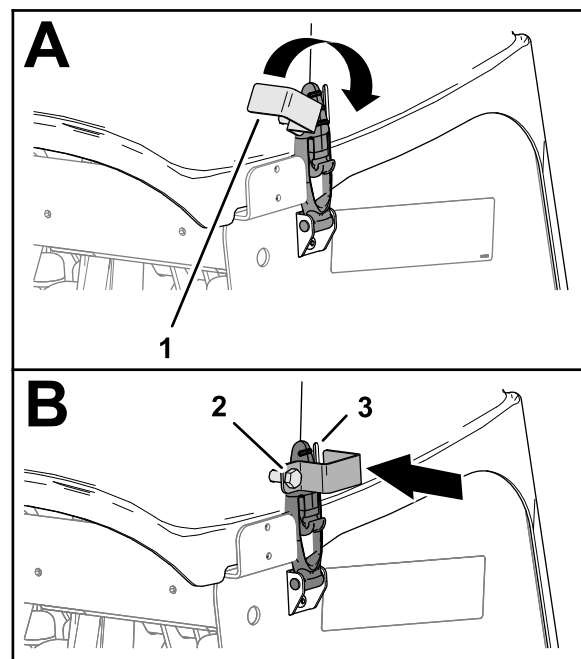

Figure 143
3. If you machine has CE latch locks, rotate the lock plate until it aligns with the slot in the side of the coring-head cover (Figure 143).
4. Tighten the lock-plate bolt (Figure 143).